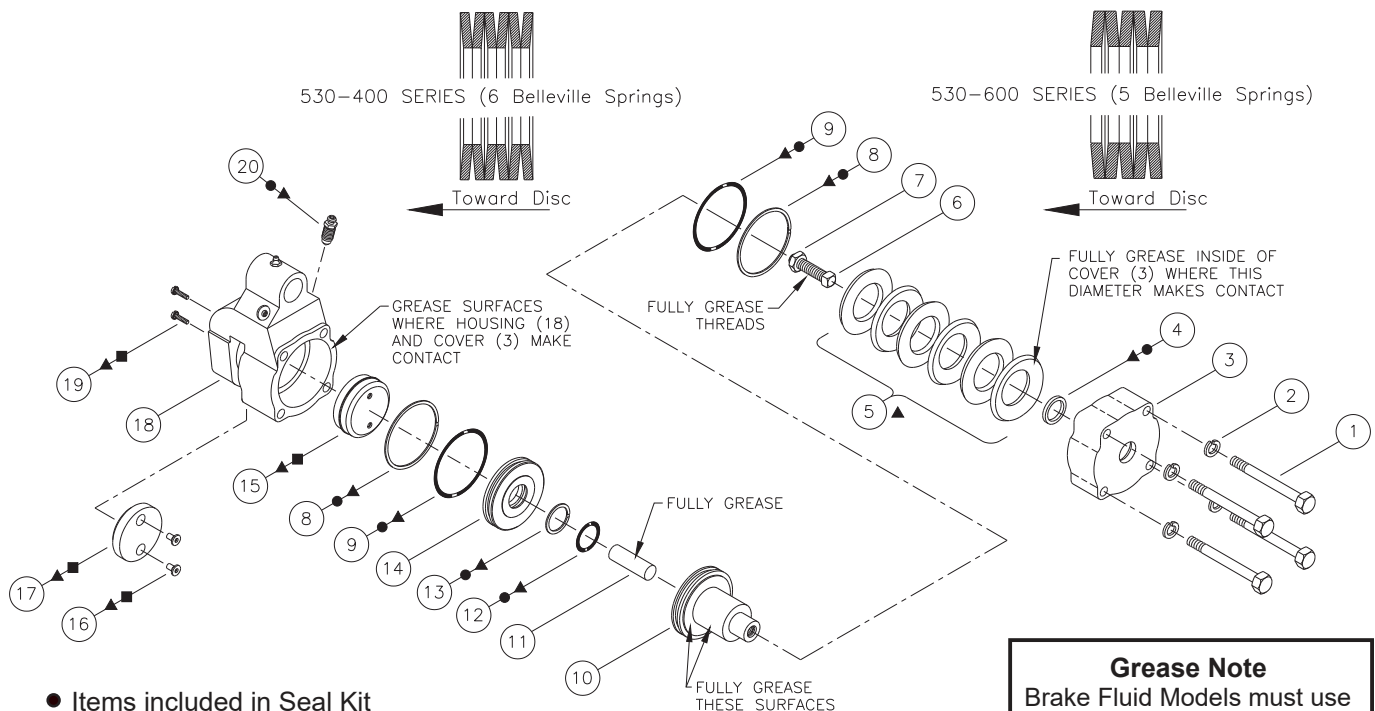

FIGURE 10
(Refer to Figure 10)
10. Remove bleeder screw (20).
12. Clean all parts and housing bore thoroughly with clean type fluid used in the system and keep free of all contaminants, dirt, and debris. **NOTE: Use a heavy, waterproof grease to lubricate surfaces as shown in Figure 10 on page 5. See Grease Note.**
13. Install new bleeder screw (20) and finger tighten.
14. Install new o-rings (9 & 12) and new back-up rings (8 & 13) on piston (14). Note the order of components. **NOTE: When installing back-up rings it is essential that the surfaces of diagonal splice match with each other after o-ring is installed in groove.**
15. Install piston (14) into housing (18) bore. Note direction of piston. **NOTE: When inserting piston, be careful not to pinch the o-ring on inlet ports.**
16. Install new back-up ring (8) and new o-ring (9) on piston (10). Note the order of components. Install push rod (11) in the bore of piston (10). Install piston (10) into housing (18) bore.
17. Fully lubricate threads of adjusting screw (6) and lock nut (7) and install into piston (10).
18. Install belleville springs (5) over the end of piston (10). Follow the stacking sequence shown in Figure 10 on page 5. **NOTE: If seal kit is being installed use the existing belleville springs after completely lubricating with a light coat of heavy, waterproof grease. See Grease Note, Figure 10 on page 5. If repair kit is being installed use new belleville springs, already greased. Note that the belleville spring nearest the cover must contact the cover on its outside diameter.**
19. Install new seal (4) in cover (3).
20. Install cover (3), lock washers (2), and cap screws (1). Torque cap screws to 29.8-36.6 N·m (22-27 lb·ft).